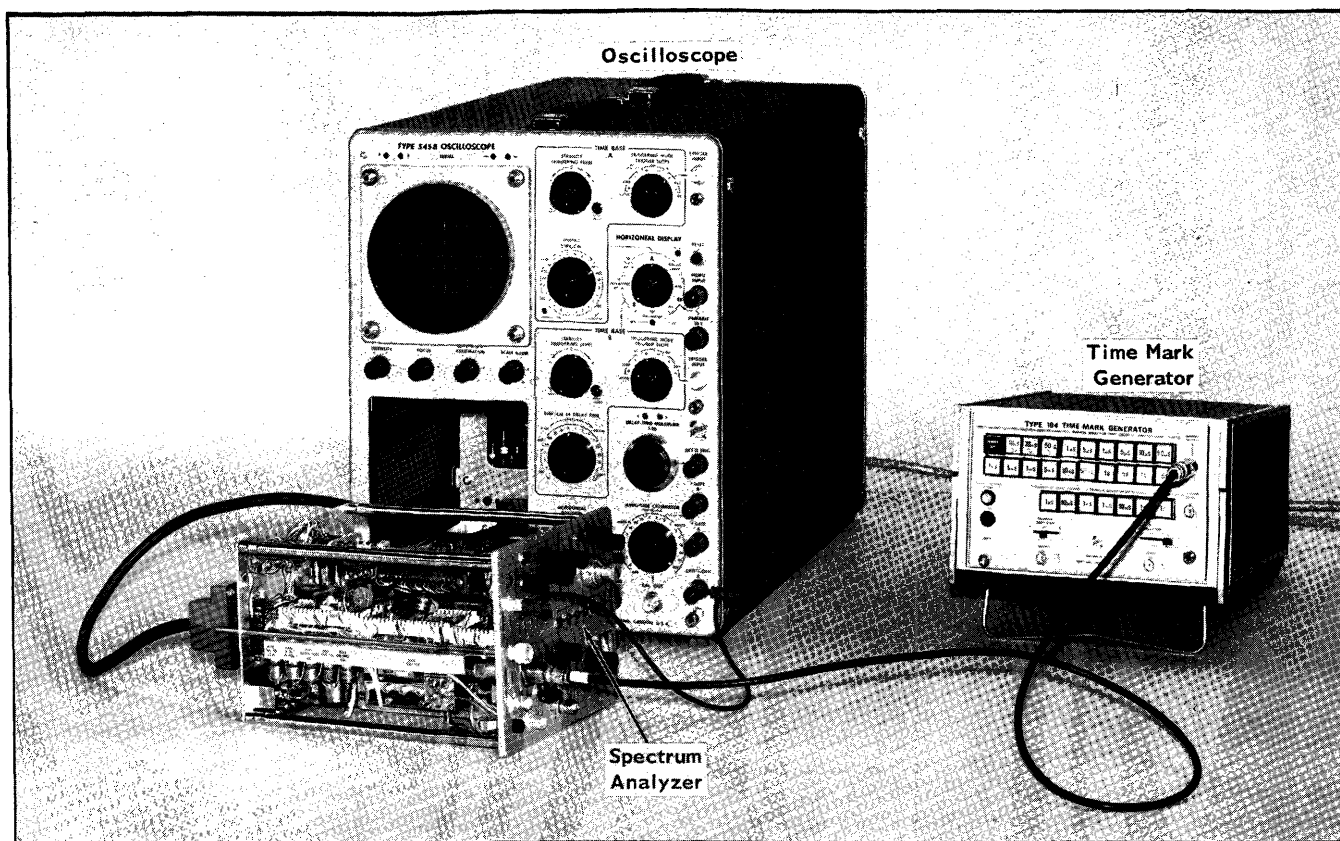

Fig. 6-12. Setup for adjusting Swept Frequency Oscillator Center Frequency (Step 5) and checking range of IF CENTER FREQ Controls (Step 6).
- Connect the equipment as shown in Fig. 6-12.
- Connect the equipment as shown in Fig. 6-12. Set the generator for 100 MHz and 10 MHz markers.